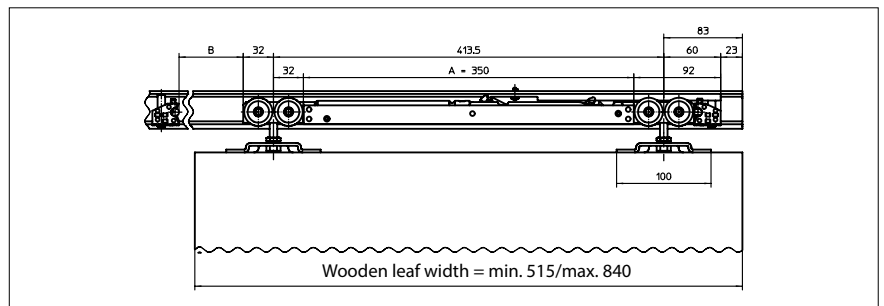

Fig. 41-3
e.g. with wooden leaf, short design (1-side), damping in one direction, see Fig. 41-3